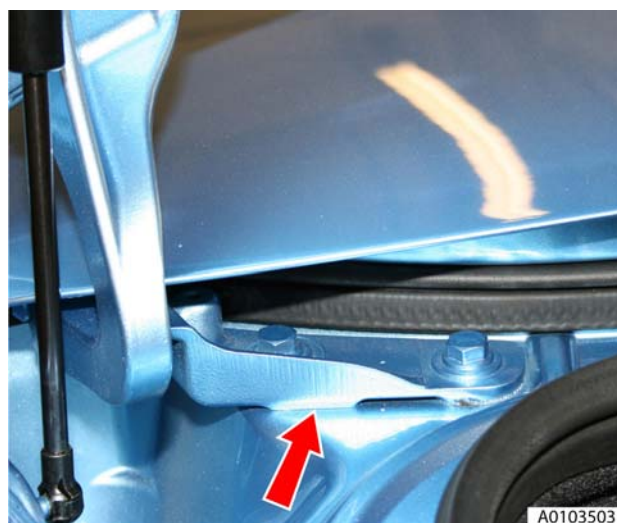

Figure 2
3. Mark outline of hinge on body using a suitable marker (see Figure 2).